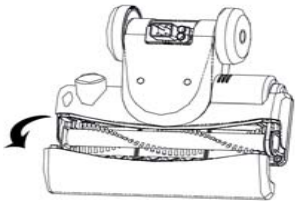

Fig. 19
- If the vacuum still does not start, contact customer service at 1 (800) 798-7398.
- Remove the brush cover. (Fig. 19)